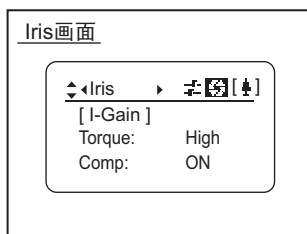

Fig1-6
4. Iris screen [Icon] (See Fig. 1-6 below)